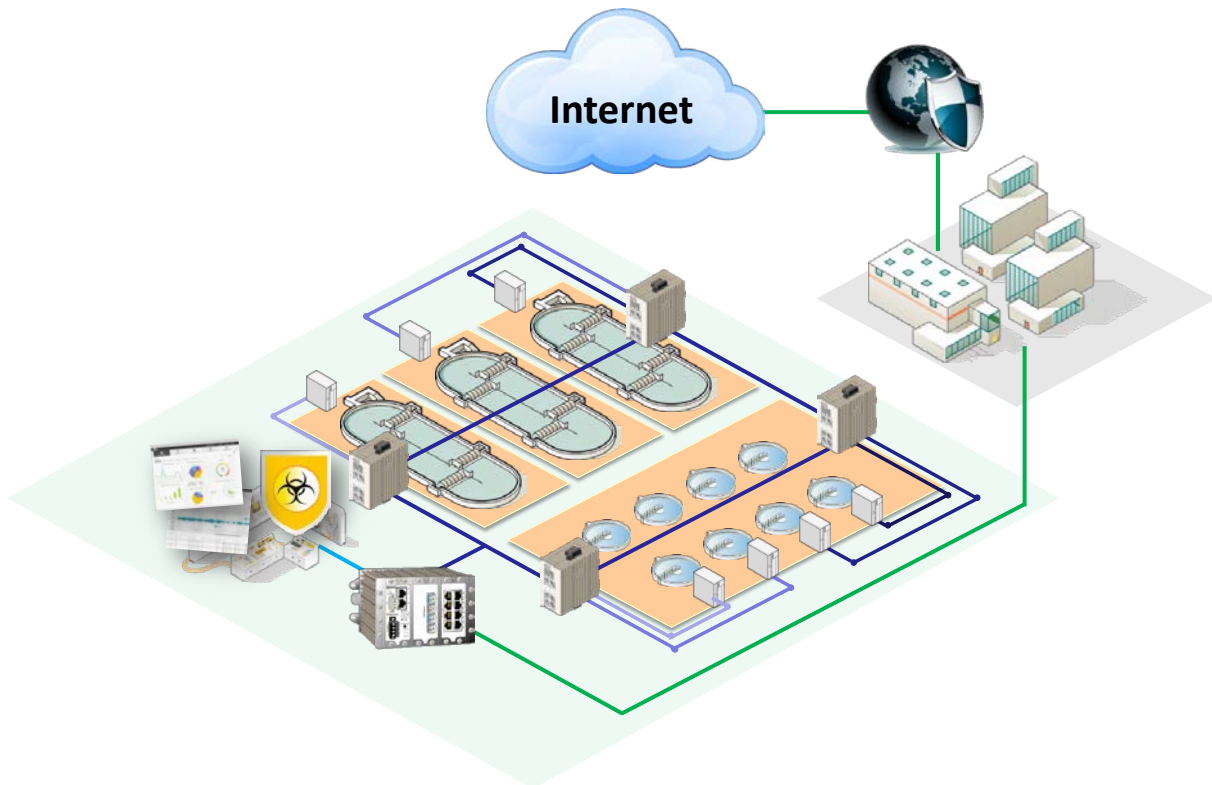

Figure 2 - Resilient network segregation
- They work in resilient network architectures (ring topologies) as illustrated in *Figure 2 - Resilient network segregation*
The example in *Figure 2 - Resilient network segregation* illustrate how each PLC becomes an individual security zone in resilient topology, making it possible to control all data flows in the network. With this technique, it is possible to establish IP level traffic whitelisting, meaning only approve data flows are allowed between assets (assuming there is only one asset per zone).